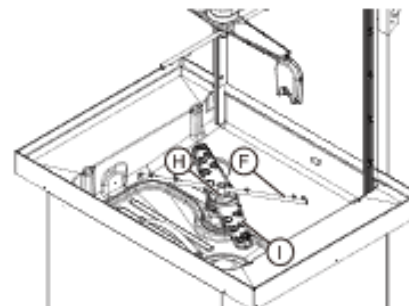

Figure 26 Wash and rinse arms
- Remove the upper and lower wash arms "F" and rinse arms "I", undoing the ring nut "H" (Figure 26).